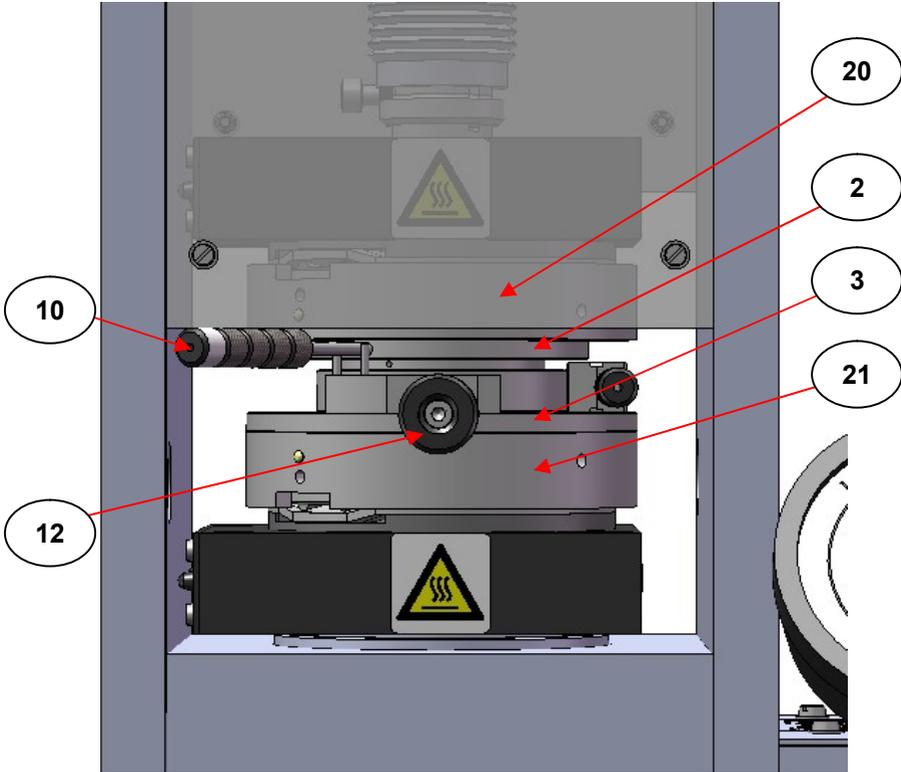

Fig 9. Film Maker Accessory Assembly of Parts in an Atlas™ Manual Hydraulic Press Fitted With Atlas™ Heated Platens
assembly of film maker parts between the Atlas™ Heated Platens and then allow the front safety guard of the Press to lower and rest on top of the handle (10) to the top platen pressing assembly (2). (See Fig 9.)
Slowly lower the top Atlas™ Heated Platen assembly (turn the lead screw of the Press clockwise) to make contact with the upper surface of the top platen pressing assembly (2) until **all the components of the pressing system** (the top (20) and lower (21) heated platen surfaces, top (2) and lower (3) platen pressing assemblies, aluminium foils and sample) are just touching each other. The components should be fairly loosely held together at this stage, prior to heating and melting of the sample. (See Fig 9.)